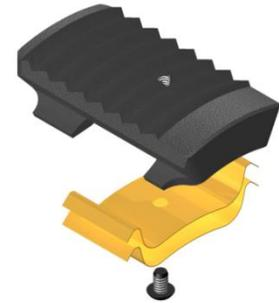

Fig. 4
**NOTE**5: Install two (2 ea) springs per slip (Fig. 4).